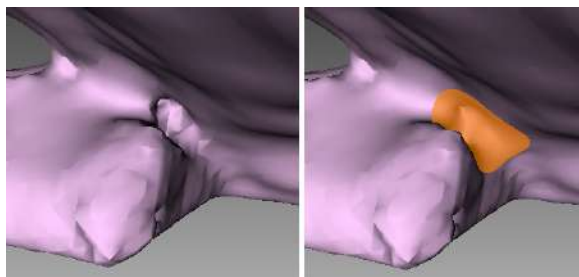

Figure 99: Before smoothing (left) and smoothing out a poorly captured area (right).
6. Hold LMB and paint the surface region in order to smooth it. The tool will smooth the affected areas (see Figure 99, right).